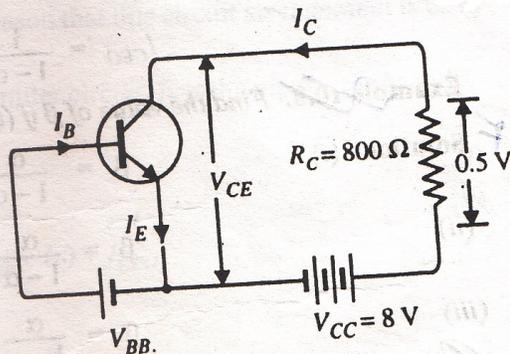

Fig. 10.20
**Example 10.12.** A transistor is connected in common emitter (CE) configuration in which collector supply is 8V and the voltage drop across resistance  $R_C$  connected in the collector circuit is 0.5V. The value of  $R_C = 800 \Omega$ . If  $\alpha = 0.96$ , determine :
**Solution.** Fig. 10.20 shows the required common emitter connection with various values.